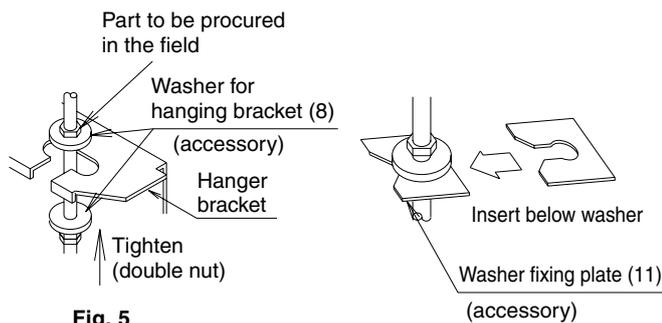

Fig. 5
- Attach the hanger bracket to the suspension bolt. Be sure to fix it securely by using a nut and washer from the upper and lower sides of the hanger bracket. **(Refer to Fig. 5)**